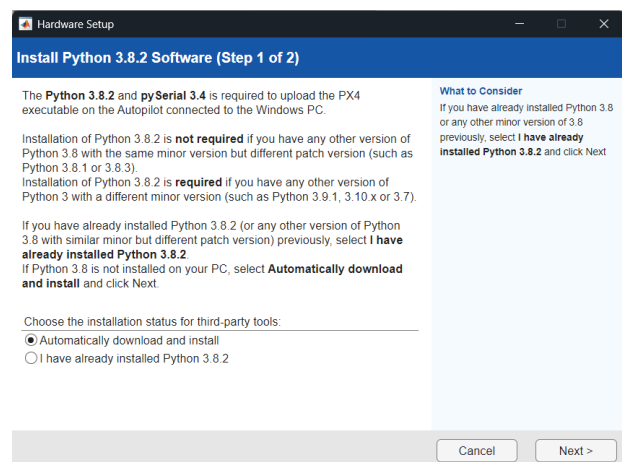

Figure B.2: Screenshot of step one of the python installation window.
3. **[Initial Only]** The screens will prompt the download of Python as shown in Figure B.2. Select “Automatically download and install” and then proceed to the next screen.